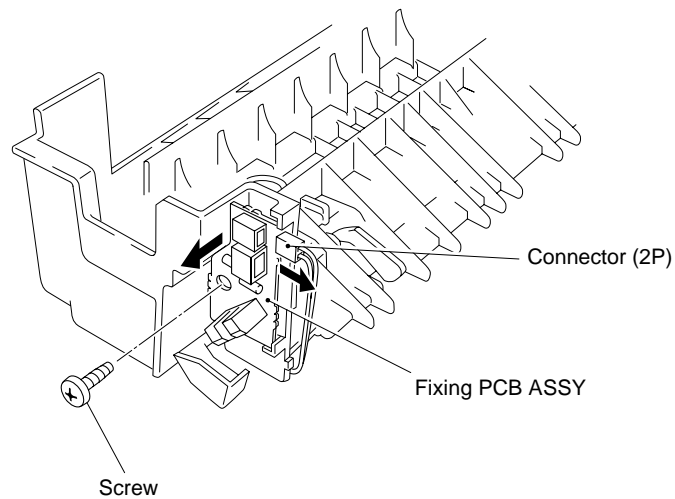

**Figure 4.51**
- (5) Remove the Thermistor lead wire connector (2P) of the Fixing PCB (see Figure 4.51).
- (6) Detach the wire from the hooks of the Fixing unit chassis.
- (7) Loosen 4 screws and remove the Fixing unit cover.